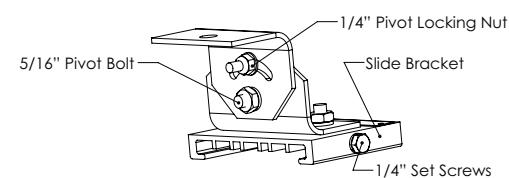

Figure 4. Swivel Mount Details
- Tighten the two (2) 1/4" set screws on each slide bracket until they bottom (see Figure 4). Torque to 78 in.-lbs. (8.8 N-m).
- Adjust the position of the fixture to the desired angle and tighten the two (2) 5/16" pivot bolts. Torque to 138 in.-lbs. (15.6 N-m).
- Tighten the two (2) 1/4" pivot locking nuts at the adjustment slots to 78 in.-lbs. (8.8 N-m).